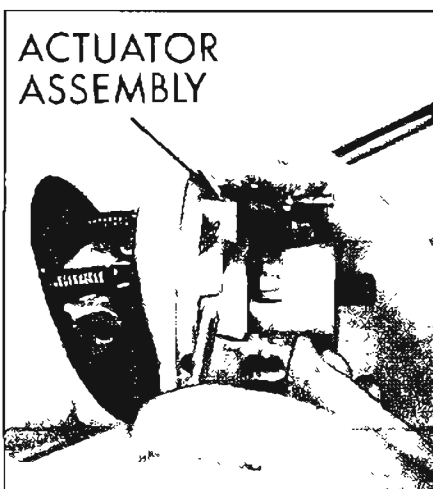

Figure 8-82—Removing Actuator Assembly
13. Lift tilt wheel release lever to disengage lock shoes from the support and remove actuator assembly. See Figure 8-82. Remove tilt springs.
7. Apply front wheel bearing lube on lock shoes and on frictional surfaces at actuator assembly including surfaces where actuated contacts support. Move the tilt lever up slightly to prevent the lock shoes from engaging the support pins, then install the actuator assembly over the steering shaft, carefully feeding horn and control wire through shift bowl. Position actuator assembly on support. See Figure 8-82.